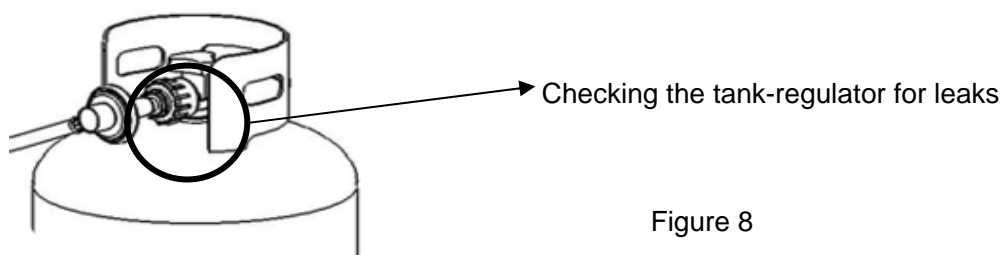

Figure 8
8. Open the tank valve. Apply a solution of soapy water to the tank-regulator connection and to the valve-hose connection to check for leaks as shown in Figure 8. If soap bubbles continue to form, the connection has a leak. If a leak is found, close the tank valve and tighten all connections.